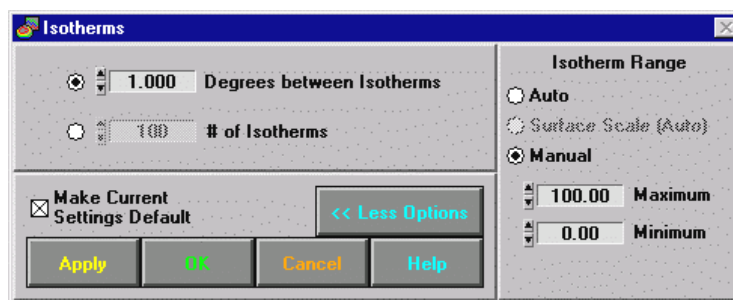

Figure 4-15. Isotherms Configuration Window
- To control the number of isotherms shown in a map, click on the **Arrow** icon on the Contour window and select **Isotherms**. The dialog box shown in Figure 4-15 appears.